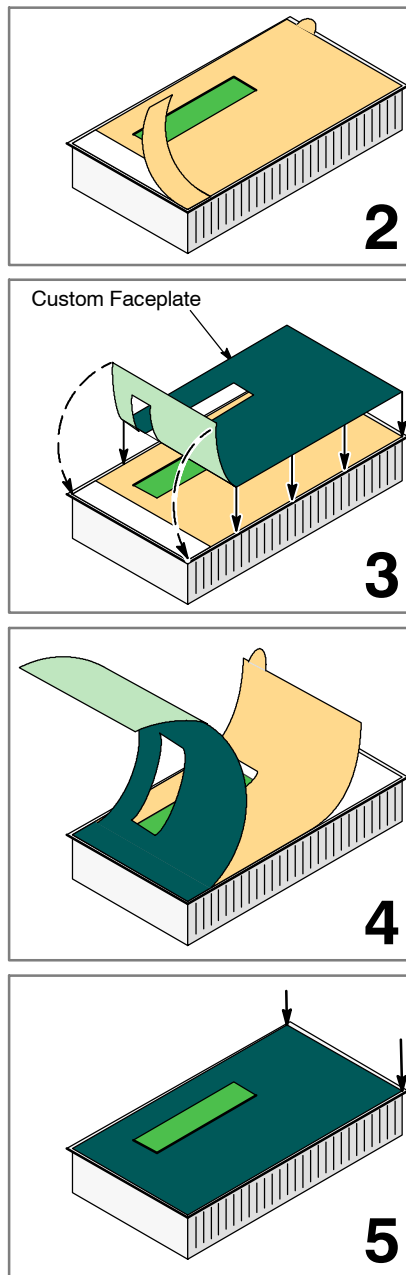

Figure 3-21 Adhering the Faceplate onto the TD Device
2. As shown in Figure 3-21, remove the strip of protective paper on the left side of the TD 200C to expose a strip of the adhesive. For the TD 100C, this strip is on the right side of the device.